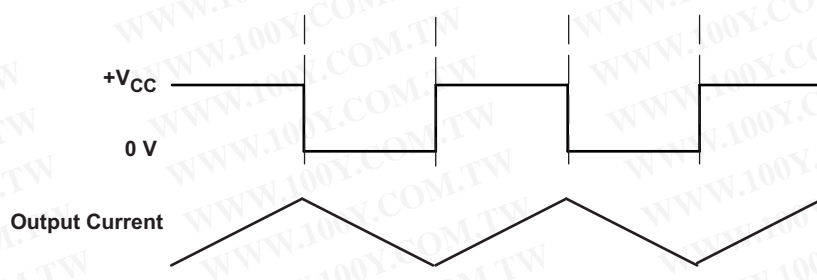
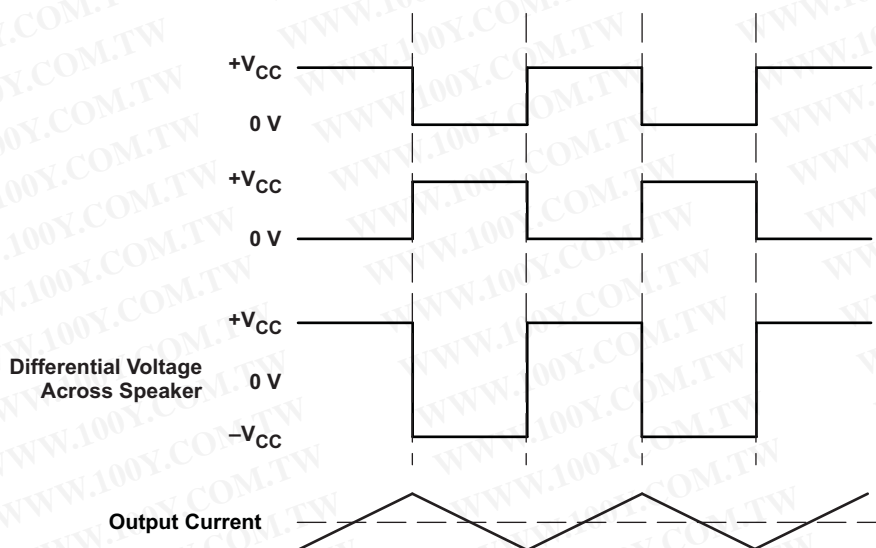

Figure 25. Class-D Modulation for TPA3124D2 SE Configuration
Figure 26. Class-D Modulation for TPA3124D2 BTL Configuration
The TPA3124D2 operates in AD mode. There are two main configurations that may be used. For stereo operation, the TPA3124D2 should be configured in a single-ended (SE) half-bridge amplifier. For mono applications, TPA3124D2 may be used as a bridge-tied-load (BTL) amplifier. The traditional class-D modulation scheme, which is used in the TPA3124D2 BTL configuration, has a differential output where each output is 180 degrees out of phase and changes from ground to the supply voltage, V_{CC} . Therefore, the differential prefiltered output varies between positive and negative V_{CC} , where filtered 50% duty cycle yields 0 V across the load. The class-D modulation scheme with voltage and current waveforms is shown in Figure 25 and Figure 26.